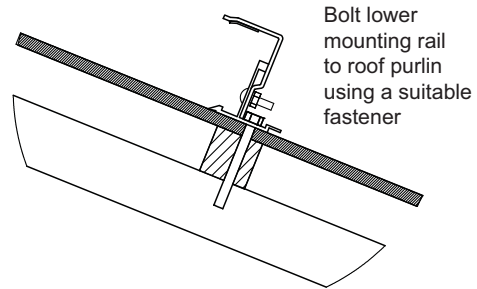

Figure 23 - Mount Lower Collector Rail
- Bolt the rail to the roof purlin using a suitable fastener as shown in **Figure 23**.